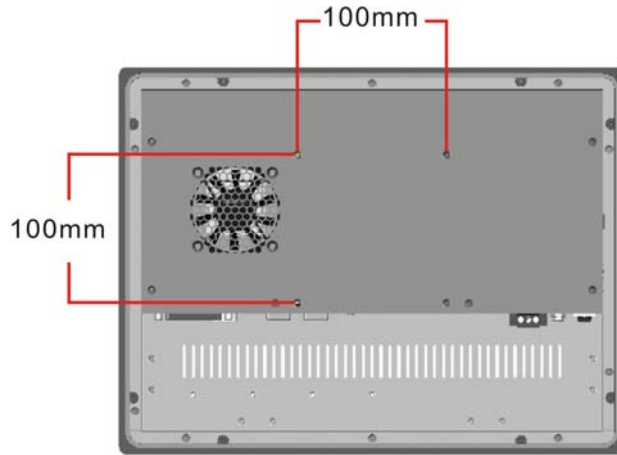

Figure 4-28: Arm Mounting Retention Screw Holes
Step 3: Align the retention screw holes on the mounting arm interface with those in the flat panel PC. The arm mount retention screw holes are shown in **Figure 4-28**.